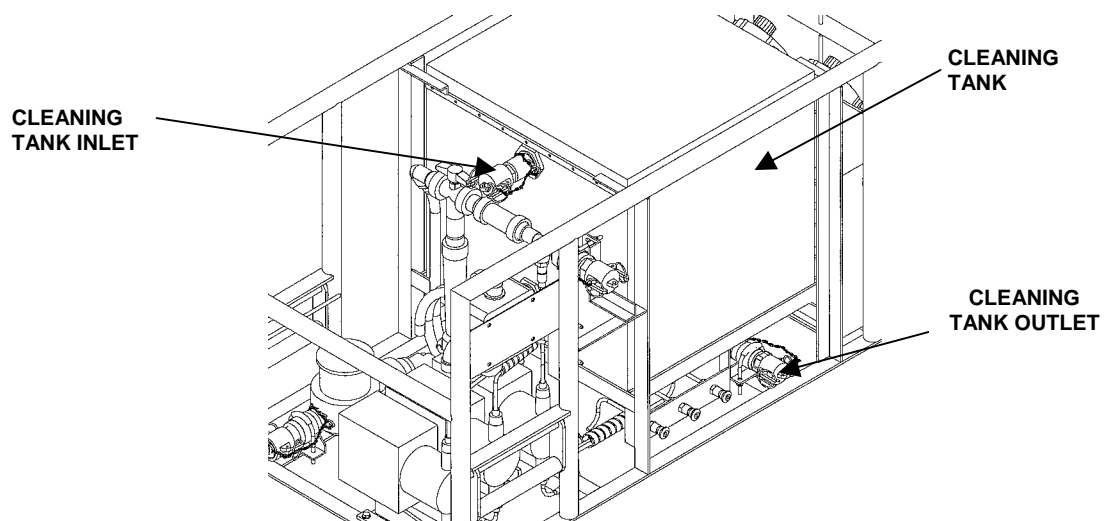

Figure 4. Cleaning Tank Outlet.
- g. Attach backwash pump suction hose (yellow) to cleaning tank outlet. See Figure 4.
- j. Attach discharge end of UF reject hose (red) to cleaning tank inlet. See Figure 4.